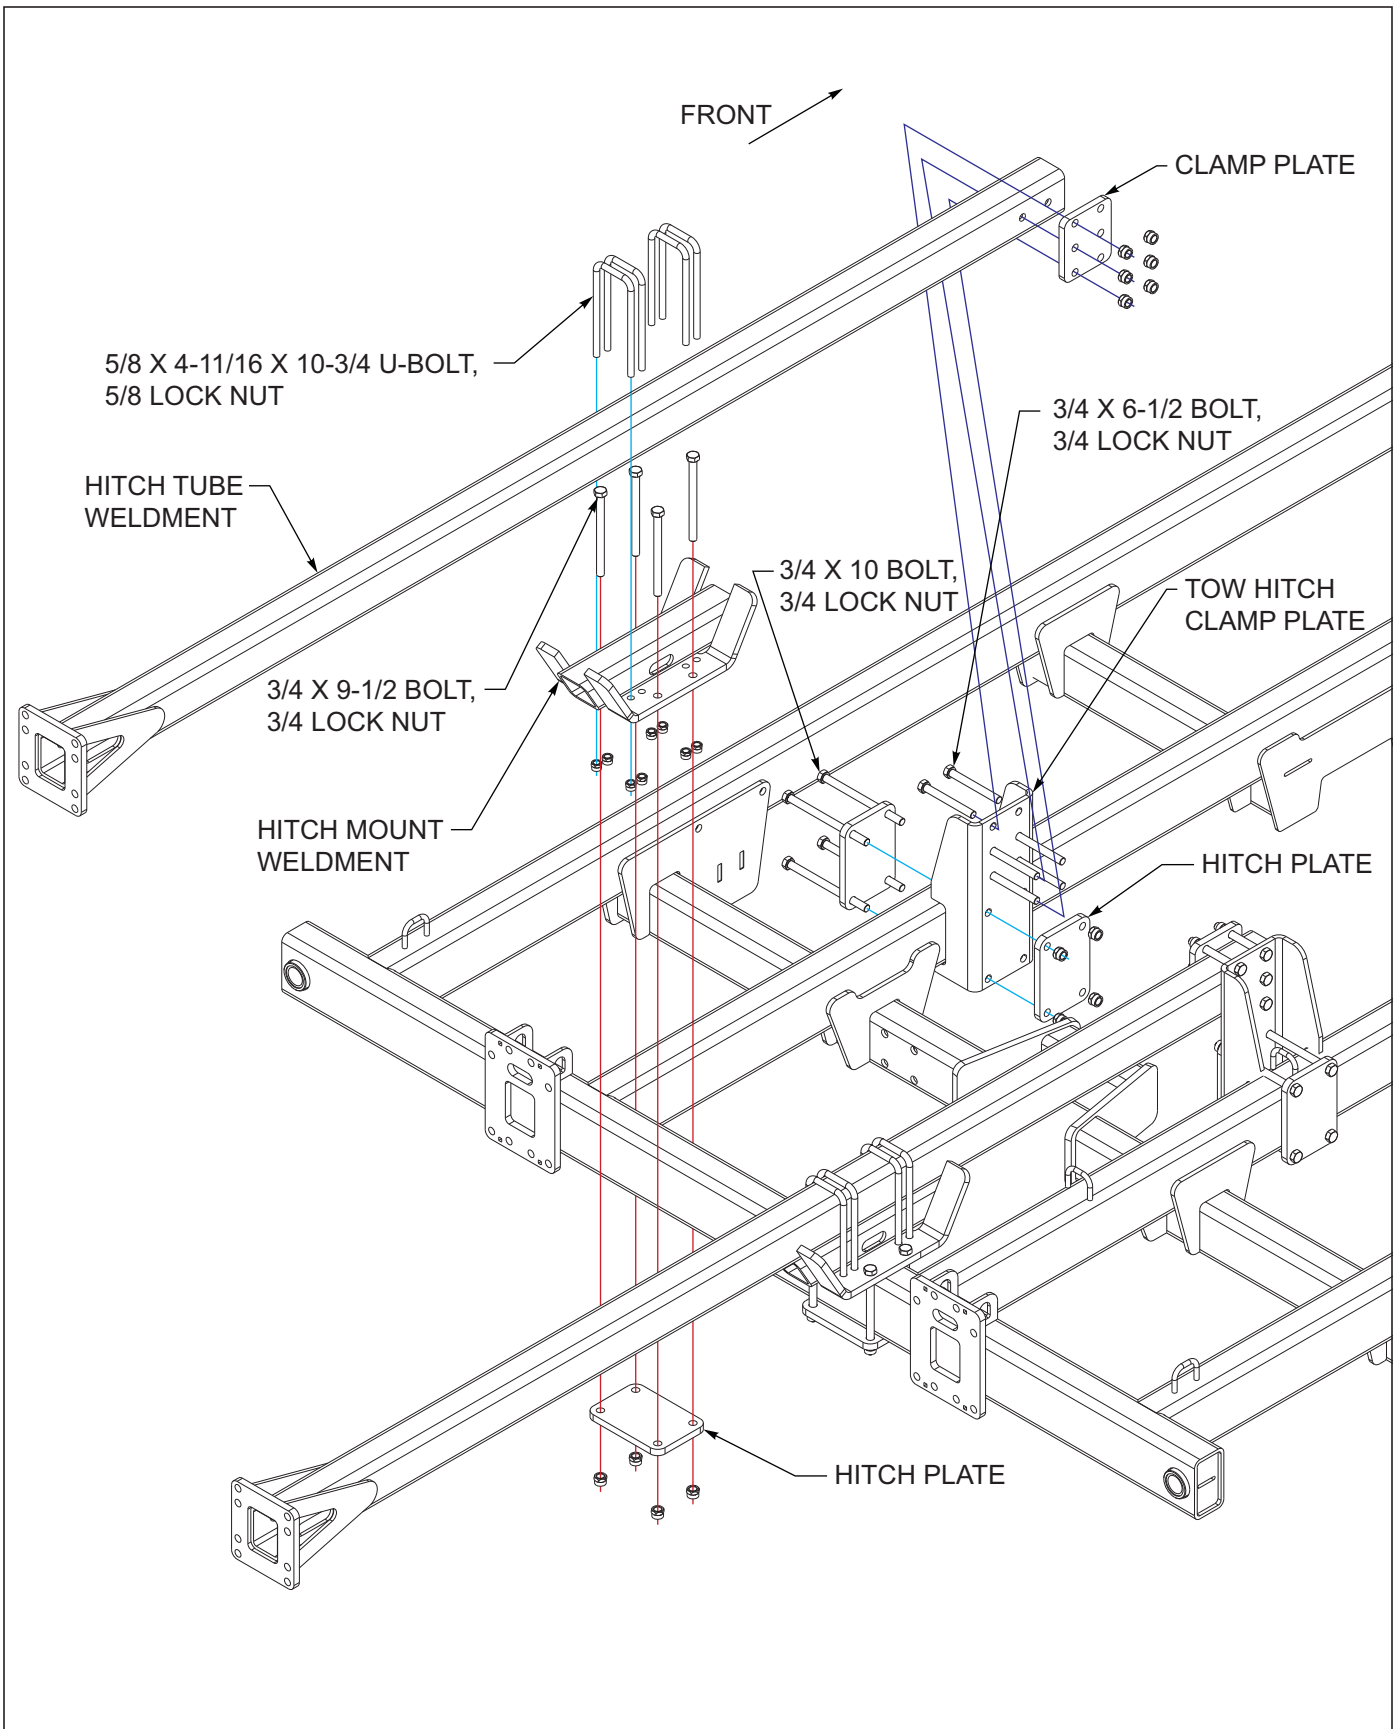

Figure 3-38: Rear Tow Hitch Installation (1 of 2)
1. Attach hitch mount weldments to top side of rear center frame tube, hitch plates below center frame tube with 3/4 x 9-1/2 bolts and 3/4 lock nuts *See Figures 3-38.*